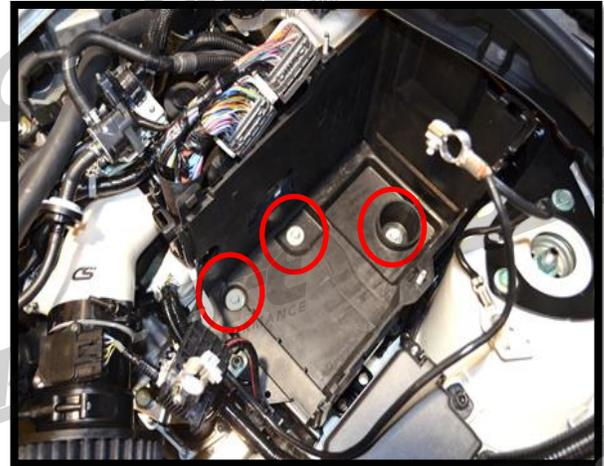

Figure 1e
- j) Remove the battery box. (Figure 1e)
- j) **Remove the battery box.** Remove the three 10mm bolts in the bottom of the box, and remove the battery box and ECU. (Red Circles Figure 1e)